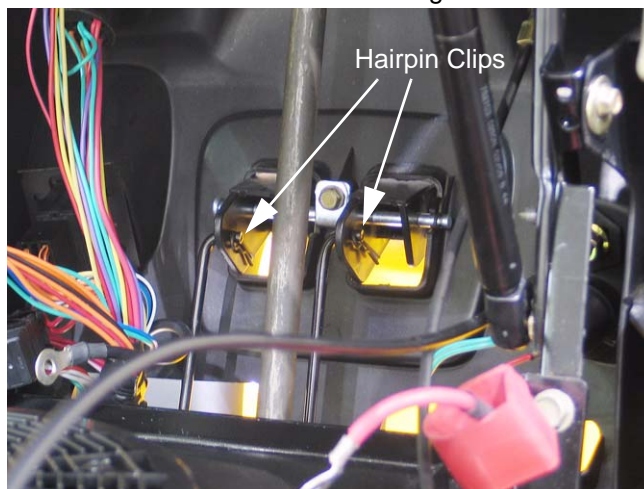

Figure 16.4
16.4. Remove the hair pin clips holding the linkages to the levers in the dash. See Figure 16.4.